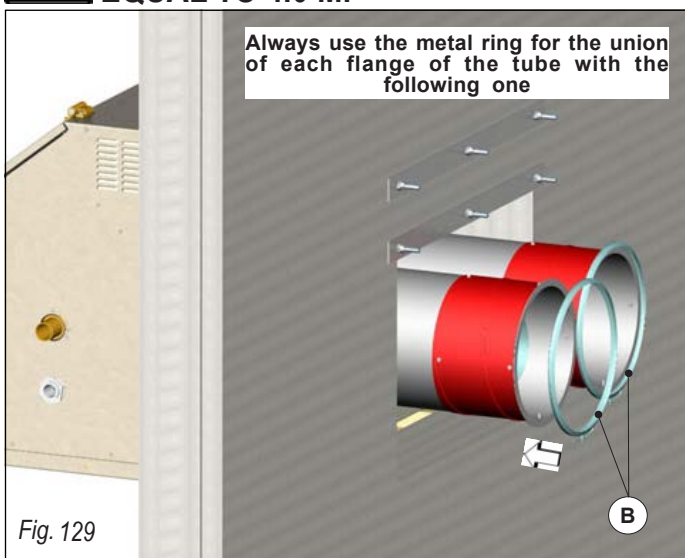
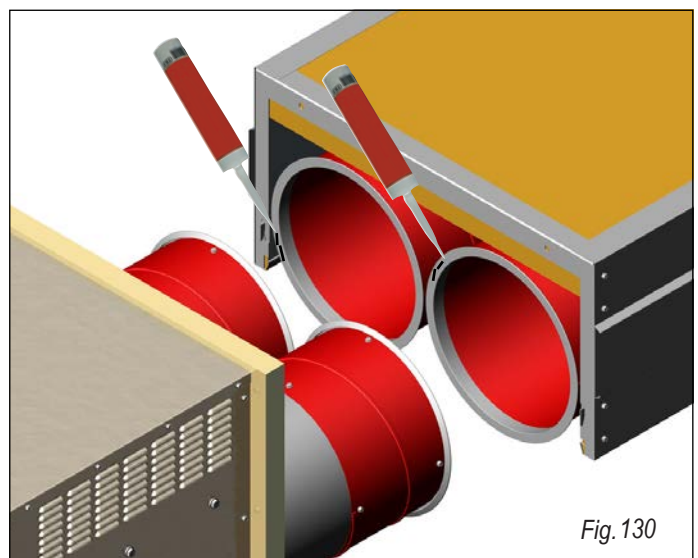

Fig. 129
Fig. 130
The correct direction of the male tooth for the **first radiant belt unit** is shown in fig. 129. Insert the closing ring (B) in the coupling flanges located on the generator (fig. 129). Put a rim of silicon in the coupling flanges of the radiant belt, see fig. 130.